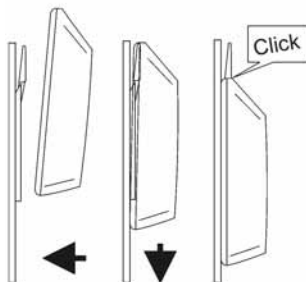

Fig. 3
3. Place the instrument flat against the bracket slightly higher than the final position and slide gently down into position. There will be a small click as the bracket secures the instrument into position (Fig.3).